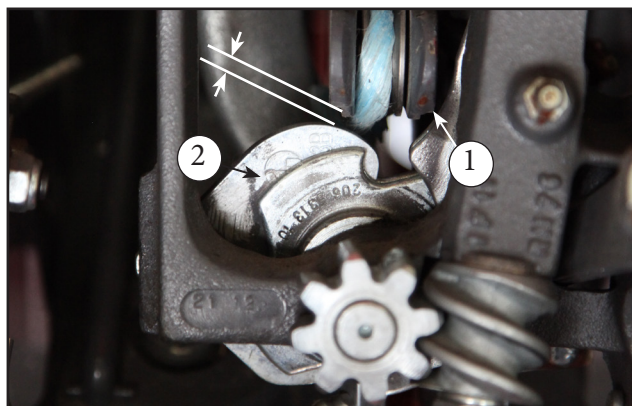

FIG. 105
FIG. 105: Make sure the needle (1) is on the forward stroke and the bottom portion of the radius of the needle tip is even with the disc cleaner (2). The needle **MUST** be on the forward stroke and the twine must be slack. There must be a 1 to 3 mm (.039 to .118in) gap between the needle and the disc cleaner.